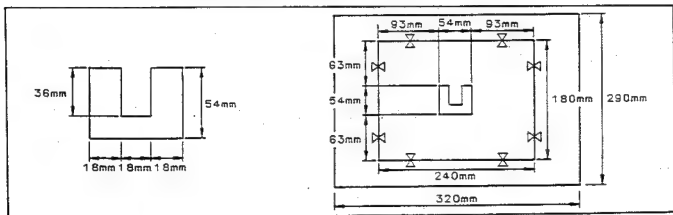

Fig. II-37
- 1) Prepare by cutting a U-pattern off from the center of black paper. Size is detailed in the Fig. II-37.